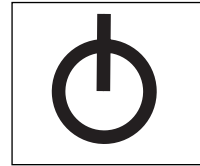

Figure 4 - Icon showing Off position
- Do not leave the unit energized or under pressure while unattended. When not in use, turn the unit Off (see Figure 4) and relieve pressure by triggering the gun in a safe direction. Then engage the trigger lock.